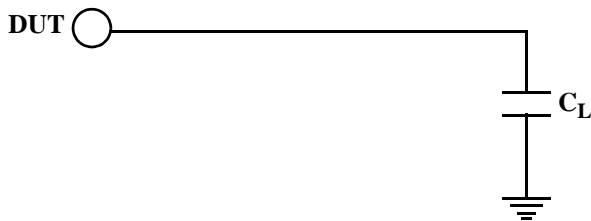

Figure 10.
3. When measuring the dynamic supply current, all outputs are loaded in accordance with the equivalent test load defined in figure 10.